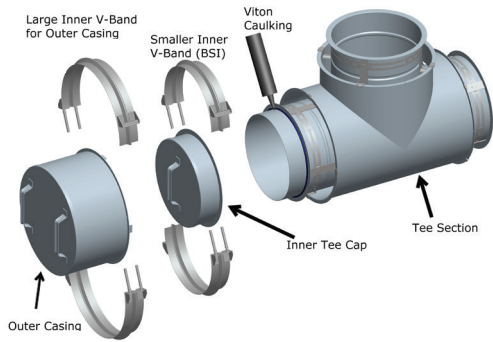

Figure 20: Step 1 (only for Horizontal installation) Installation of the TC
STEP 1- (only for horizontal installation): Add Viton® Caulking over the Viton O-ring Gasket. See Figure 20.
NOTE: Be sure the handle of the Cap faces outward as shown. See Figure 20 or 21.